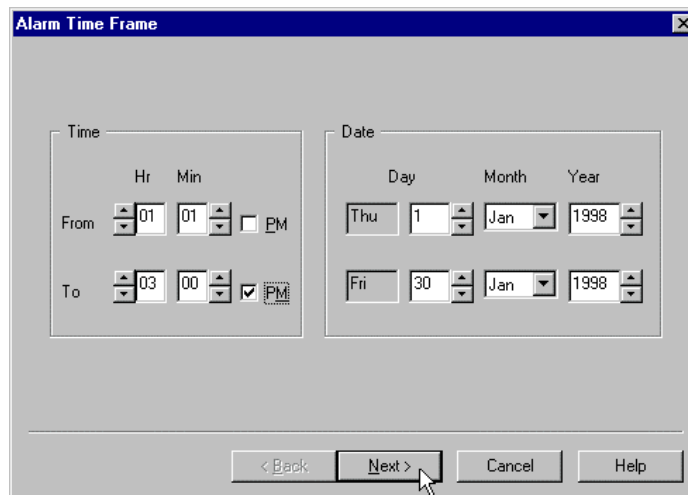

Figure 98 - Alarm Time Frame dialog box
2. Choose the time range to include in the report in the **ALARM TIME FRAME** dialog box and choose **NEXT** to continue. See Figure 98.
2. Choose the time range of alarms that should be cleared from the database in the ALARM TIME FRAME dialog box and choose **NEXT** to continue. See Figure 98.